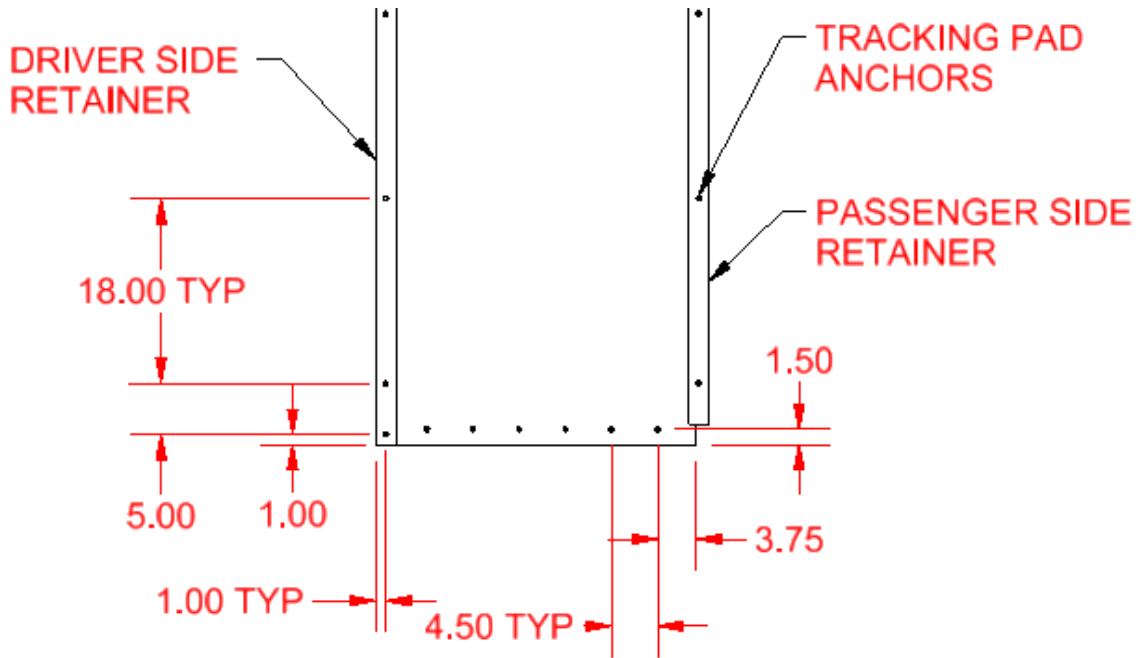

Figure 1
2. Starting at the entrance section of the Tracking Pad, drill a ¼" hole and secure an anchor **3.75"** from the outside edge of the Tracking Pad and **1.5"** from the entrance edge through the Tracking Pad and into the Concrete. While keeping the **1.5"** spacing from the entrance edge, drill and secure **(5)** more anchors every **4.5"** (See **Figure 1**). **A total of 6 anchors should be used.**